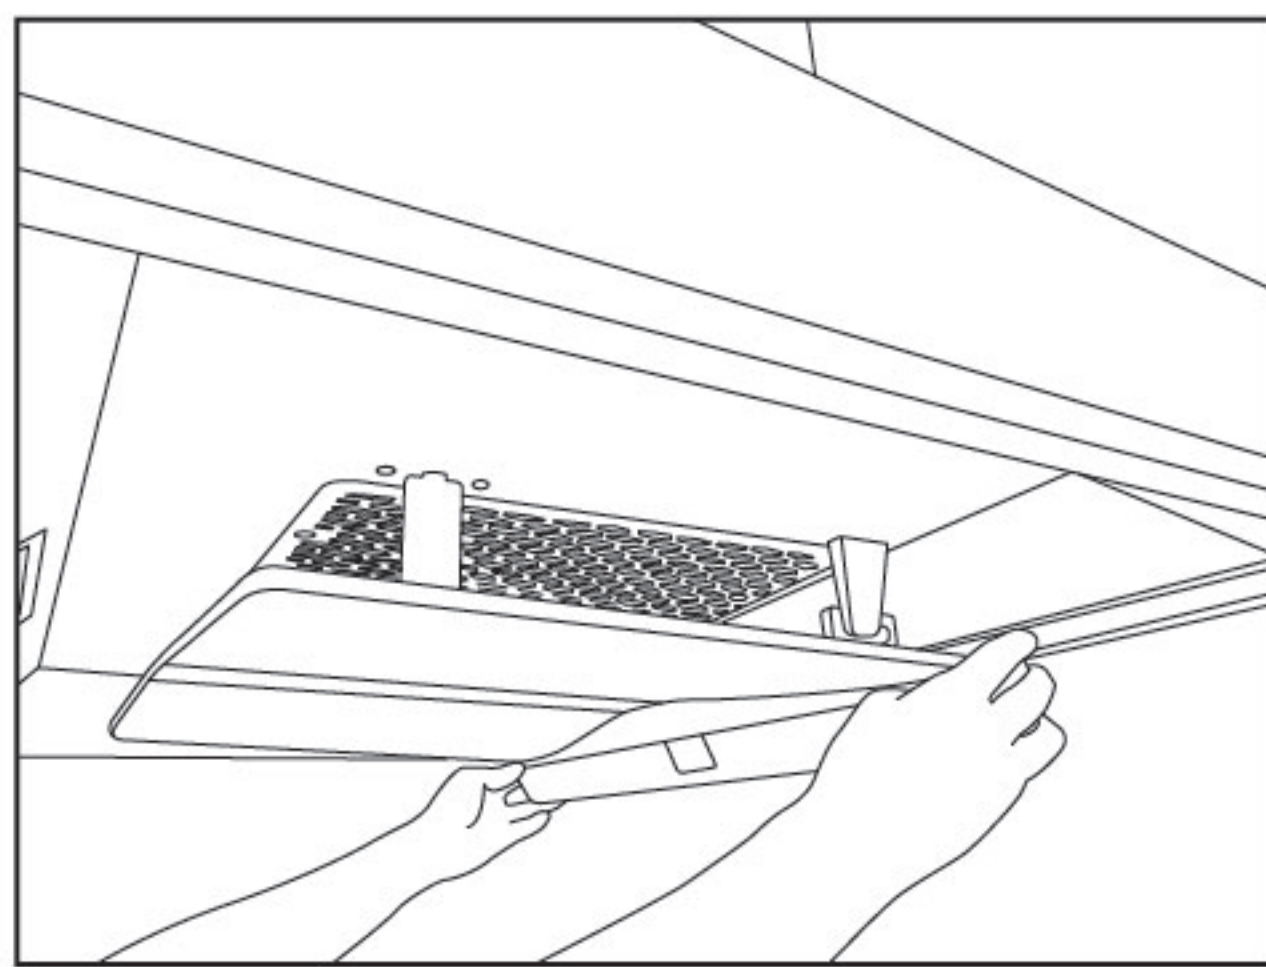

fig 1
- 1. Hold both ends of the oil cup with both hands, keep the oil cup horizontal, move out slowly toward the front direction of the range hood, take down the oil cup and then drain off the accumulated oil (Figure 1);